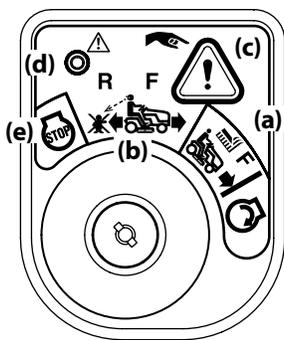

Figure 3-4
2. Turn the key from the NORMAL MOWING  (a) position to the REVERSE CAUTION MODE  (b) position of the ignition module. See Figure 3-4.
3. Press the REVERSE PUSH BUTTON  (c) at the top, right corner of the ignition module. The red indicator light (d) at the top, left corner of the ignition module will be ON while activated. See Figure 3-4.
6. The REVERSE CAUTION MODE (B)  will remain activated until: